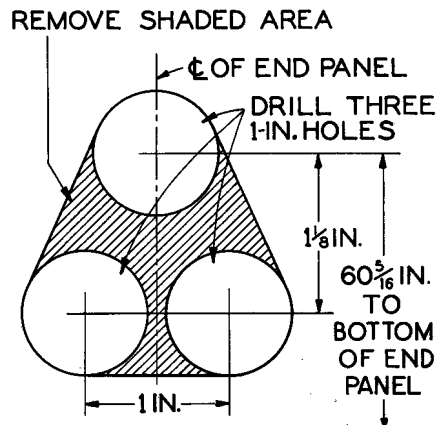
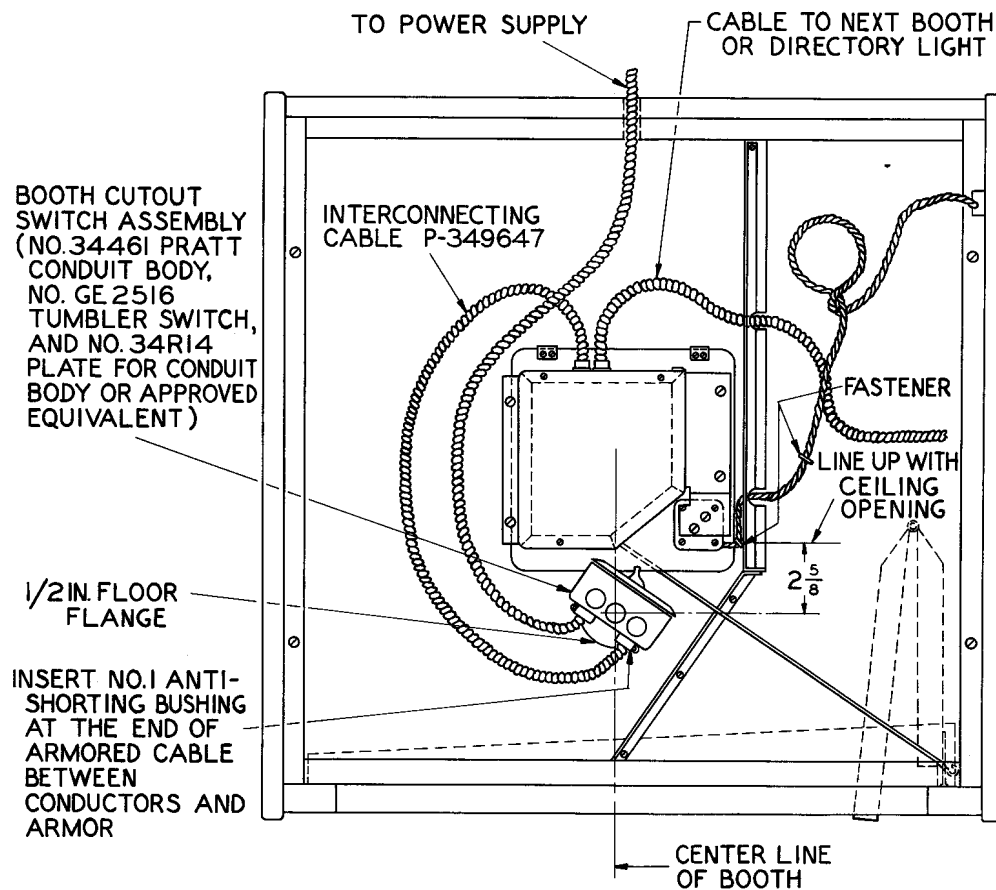

Fig. 3 — Hole for 2B Fixture
Fig. 4 — Typical Cutout Switch Installation with 4-Type Light Fixture
- For 2D fixture, follow instructions in Fig 3.
(1) Remove end panel for drilling and cutting.
(2) Cut a hole large enough to permit passage of the plug and 90-degree connector attached to the cable.
- Make connections to the booth lamp receptacle as shown in Fig. 4 or 5.
4.01 To install a booth cutout switch (Fig. 4) :